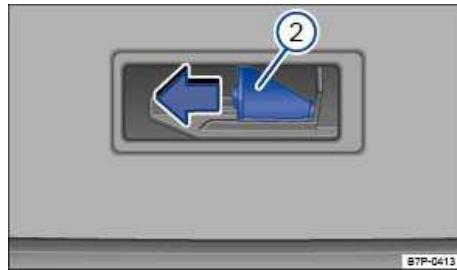

Fig. 332 Inside the luggage compartment: Release lever in the rear hatch.
- Use a small screwdriver to unlock the rear hatch, by push the release lever in direction of the arrow ⇒ fig. 332 (2).